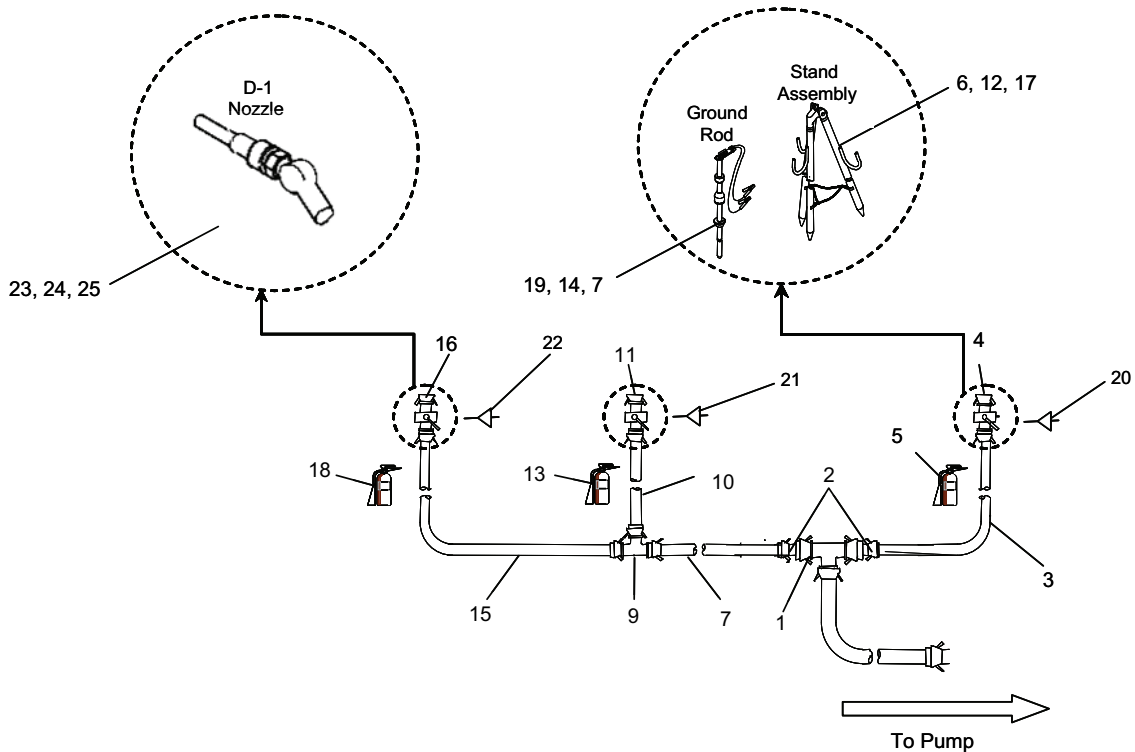

Figure 8. Installation of FSSP Components in Receipt Area.
2. Connect seven hoses (Figure 8, Item 3) towards the receiving point on the right side of 6F x 6M x 6F tee valve (Figure 8, Item 1) and the 4F x 6M adapter (Figure 8, Item 2).
4. Install the butterfly valve (Figure 8, Item 4) on the end of the seven sections of the 4 in. X 10 ft. suction hose (Figure 8, Item 3).
5. Connect the inline strainer (Figure 8, Item 20) to the butterfly valve (Figure 8, Item 4).
6. Connect D-1 (Figure 8, Item 23) to the inline strainer (Figure 8, Item 20).
7. Position the stand assembly (Figure 8, Item 6) and fire extinguisher (Figure 8, Item 5) adjacent to the butterfly valve (Figure 8, Item 4).
8. Install the ground rod (Figure 8, Item 7) adjacent to the stand assembly (Figure 8, Item 6) per FM 10-67-1.
9. Connect one suction hose 4 in. x 10 ft. (Figure 8, Item 8) to the 4F x 6M adapter (Figure 8, Item 2).
11. Connect the 4F x 4M x 4F tee valve assembly (Figure 8, Item 9) to the suction hose (Figure 8, Item 8).
12. Connect another seven sections of 4 in. x 10 ft. suction hose (Figure 8, Item 10) to the 4F x 4M x 4F tee valve assembly (Figure 8, Item 9).
14. Install the butterfly valve (Figure 8, Item 11) on the end of the seven sections of the 4 in. x 10 ft. suction hose (Figure 8, Item 10).
15. Connect the inline strainer (Figure 8, Item 21) to the butterfly valve (Figure 8, Item 11).
16. Connect the D-1 nozzle (Figure 8, Item 24) to the inline strainer (Figure 8, Item 21).
17. Position the stand assembly (Figure 8, Item 12) and fire extinguisher (Figure 8, Item 13) adjacent to the butterfly valve (Figure 8, Item 11).
18. Install the ground rod (Figure 8, Item 14) adjacent to the stand assembly (Figure 8, Item 12) per FM 10-67-1.
19. Connect the final seven sections of 4 in. x 10 ft. suction hose (Figure 8, Item 15) to the female port of the 4F x 4M x 4F tee valve assembly (Figure 8, Item 9).
21. Install the butterfly valves (Figure 8, Item 16) on the end of the sections of 4 in. x 10 ft. suction hose (Figure 8, Item 15).
22. Connect the inline strainer (Figure 8, Item 22) to the butterfly valve (Figure 8, Item 16).
23. Position the stand assembly (Figure 8, Item 17) and fire extinguisher (Figure 8, Item 18) adjacent to the butterfly valve (Figure 8, Item 16).
24. Install ground rod (Figure 8, Item 19) adjacent to the stand assembly (Figure 8, Item 17) per FM 10-67-1.